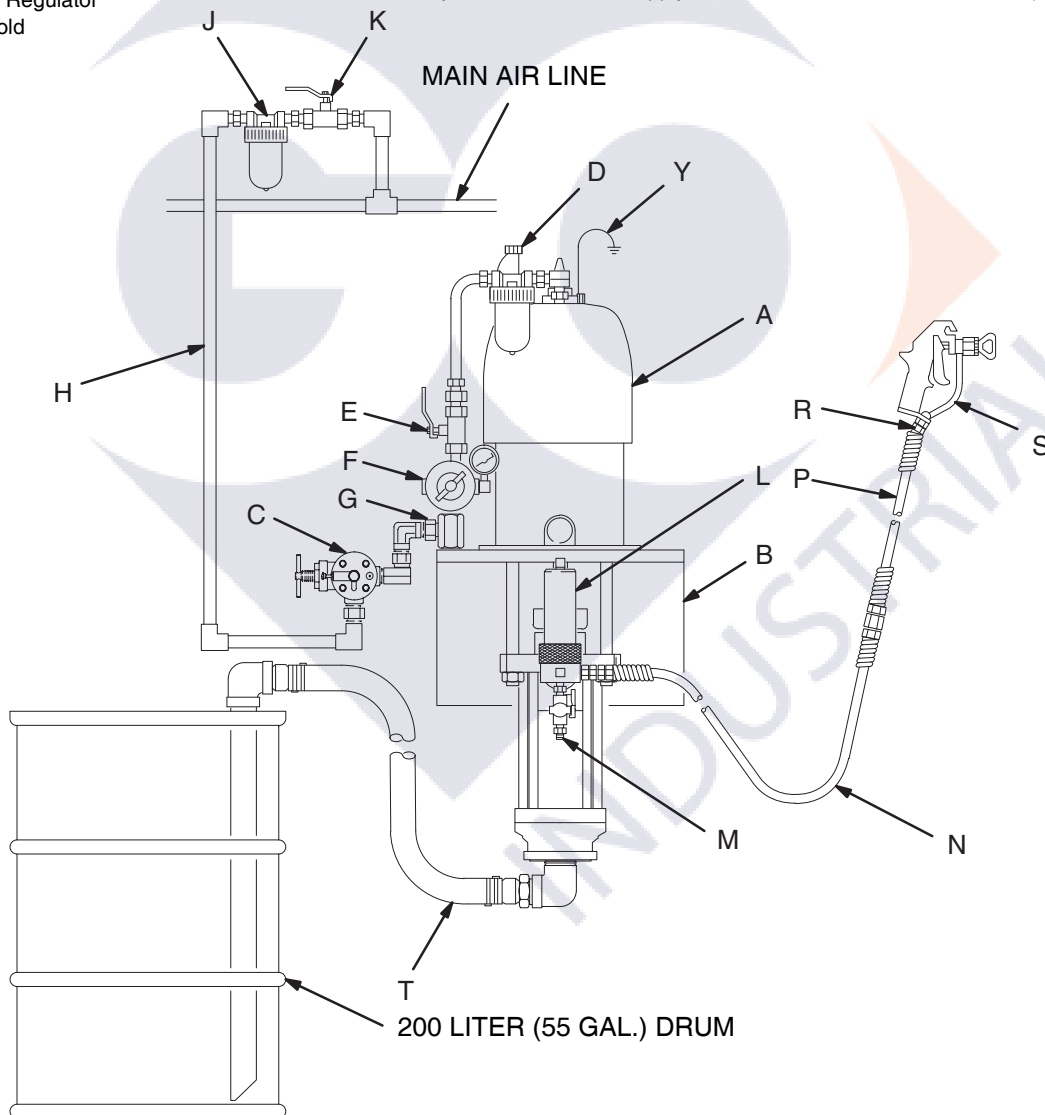

Fig. 4
Fig. 4 is only a guide for selecting and installing system components and accessories. Contact your Graco distributor for assistance in designing a system to suit your particular needs.
Mount the pump (A) to suit the type of installation planned. Fig. 4 illustrates a wall-mounted system. Pump dimensions and the mounting hole layout are shown on pages 36 and 37.
Install the following accessories in the order shown in Fig. 4, using adapters as necessary:
Install the following accessories in the positions shown in Fig. 4, using adapters as necessary:
- A fluid filter (L) with a 60 mesh (250 micron) stainless steel element, to filter particles from the fluid as it leaves the pump. It includes a **fluid drain valve (M)**, which is required in your system to relieve fluid pressure in the hose and gun (see the **WARNING** at left).
- A gun or valve (S) dispenses the fluid. The gun shown in Fig. 4 is an airless spray gun for light to medium viscosity fluids.
- A gun swivel (R) allows freer gun movement.
- A suction kit (T) allows the pump to draw fluid from a 200 liter (55 gallon) drum.